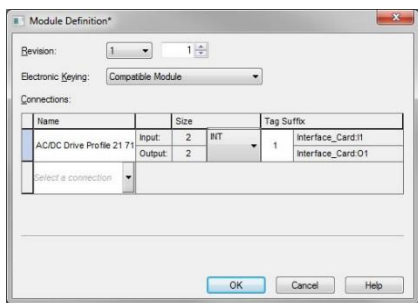

Figure 36: AOP AC/DC Drive Profile Module Definition
- 3) Configure the AC/DC Drive Profile connection. Refer to Figure 36.